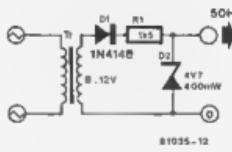

Figure 12. The calibration circuit used to set up the meter.
- If a speed transducer is used which generates (opto-electronic or inductive) pulses, the calibration circuit shown in figure 12 must be utilised. This will generate 50 Hz pulses and should be connected to the inputs of both modules. After the supply voltage